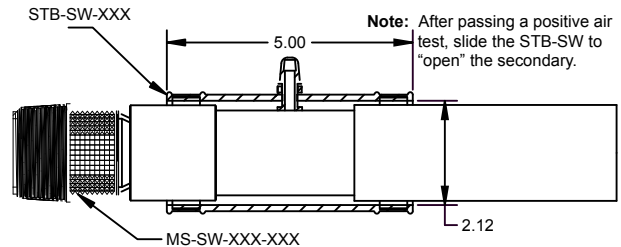

Figure 2: Swage Secondary Test Boot (STB-SW-XXX)
2. Square off and de-burr the end of the pipe. If you are using SC (Secondary Contained) piping, cut back the scuff guard layer to the sump wall (approximately 9" in dispenser sumps) and cut back the SC layer 4½". For further cutback details, see the process's complete description in the DWC-XXX Double Wall Cutter (SC) Installation Instructions or in APT's Installation Guide Overview.
4. Push the pipe through the appropriate entry boot in the sump wall and slide the Secondary Test Boot over the fitting and pipe. One end of the test boot must cover the secondary jacket; the other end will cover the swage fitting collar. No specific orientation is required (see Figure 2).